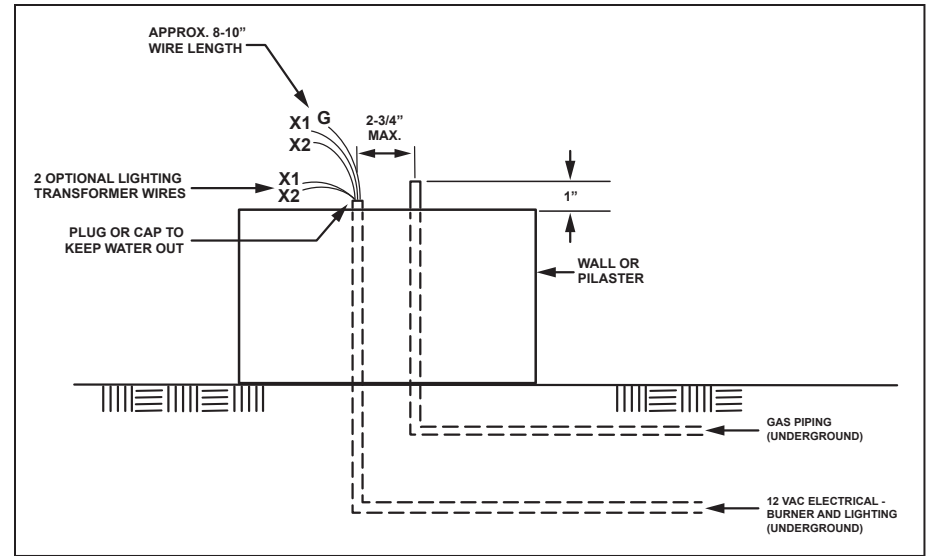
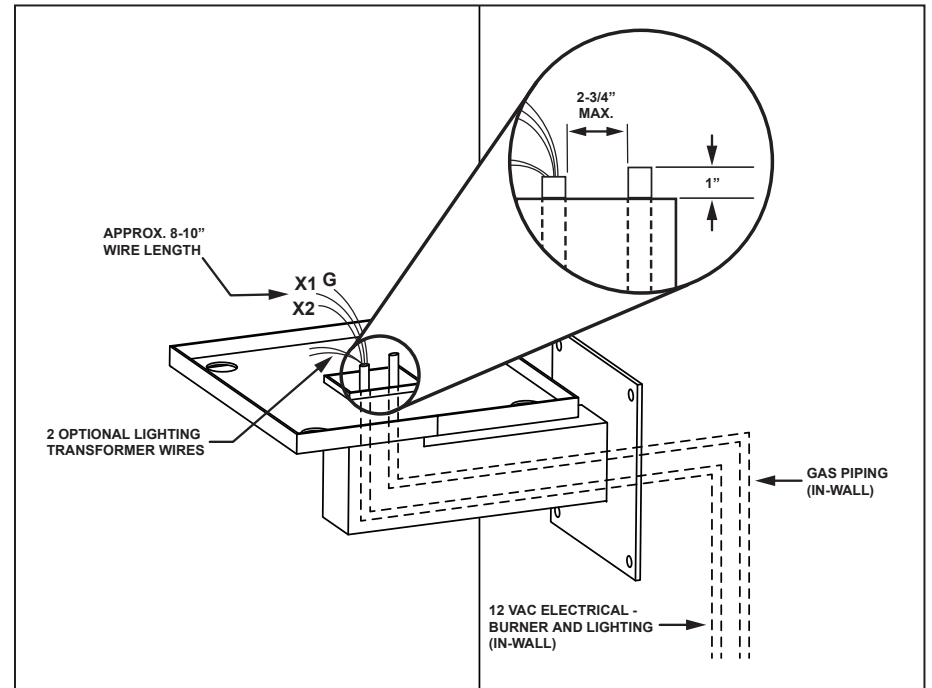

Figure 6. Piping and Wiring at Floor Mounted Candelere
Figure 7. Piping and Wiring at Wall Mounted Candelere
Reference Figure 6 for gas piping at a floor mount candelere, or reference Figure 7 for gas piping at a wall mount candelere.
- Center the gas piping and electric wiring in the middle of each candelere. See Figures 6 and 7.
Reference Figure 6 for wiring at a floor mount candelere, or reference Figure 7 for wiring at a wall mount candelere.
- Center the electric wiring and gas piping in the middle of each candelere. See Figures 6 and 7.
- For wall mount models, ensure the gas piping and electric wiring is threaded through the wall arm as shown in Figure 7. Then secure the arm and mounting plate to the wall with four mounting screws. Mounting screws are not included; screw type will vary depending on the wall's material.